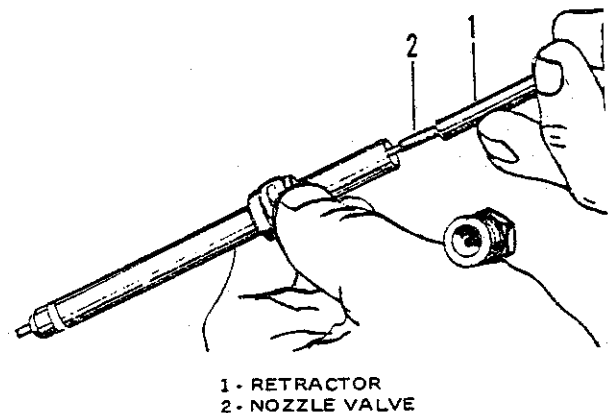

Figure 6-13. Polishing Valve Guide Area
- c. Grip the top of the valve with retractor No. 16481 (figure 6-13) and rotate the valve in the guide by turning the retractor. The amount of lapping required can be accomplished in 10-20 turns by hand. The valve should be raised and lowered in the guide every 3-4 revolutions and the direction of rotation changed for best results.